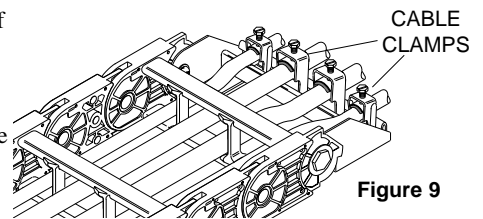

Figure 9
6. Clamp all cables/hoses firmly at both ends of the trak (Fig. 9).